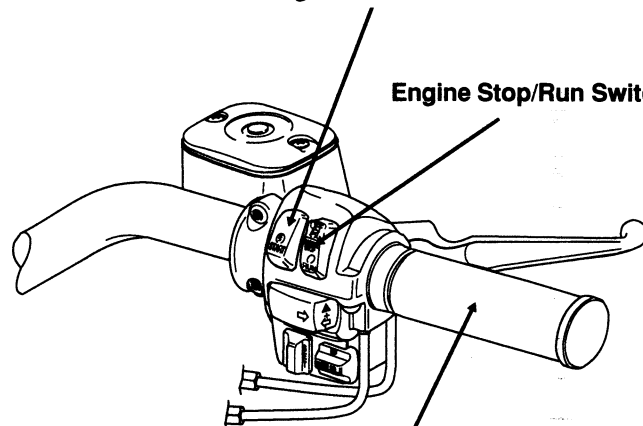

Figure 20. Handlebar Gear Shifting Controls
2. See Figure 20. Pull the clutch hand lever in against handlebar grip to fully disengage clutch.
1. See Figure 20. Release the clutch hand lever slowly to engage the clutch and at the same time, open throttle gradually.
1. See Figure 20. Stop the engine by turning OFF the engine Stop/Run switch on right handlebar.